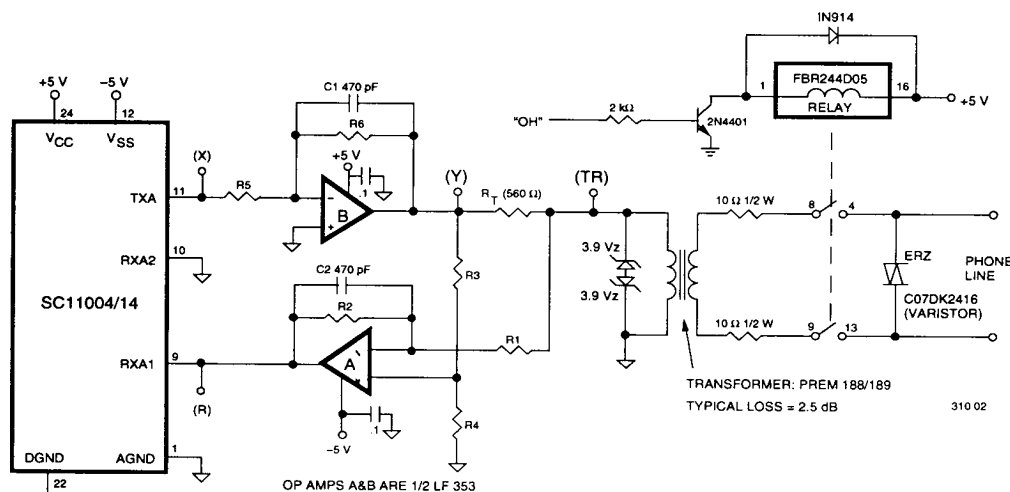

Figure 2. Using an External Hybrid with the SC11004/14
With a higher loss transformer, some degradation in performance at lower signal levels will occur. Specifically, the bit error rate, when operating at receive signal levels below -40 dBm in the presence of noise, will be higher. The energy detect on/off levels measured at the line will also be different from those specified at the chip. With a 3 dB loss transformer for example, the energy detect on/off levels measured at the line will be in the range of -40/-45 dB rather than -43/-48 dB as specified at the chip. An external hybrid circuit, shown in Figure 2, can be used to overcome these losses and achieve maximum performance.
The external hybrid circuit uses two operational amplifiers, one in the transmit path and the other in the receive path. The SC110104/14 internal transmit stage provides a gain of 6 dB over the transmit signal level desired at the line. For example, if the TLC1, TLC0 level control codes are set to 0 and 1 respectively so as to obtain -9 dBm at the line, the chip actually puts out -3 dBm at the TXOUT pin (pin 11). Under ideal conditions, with no loss in the transformer and perfect line matching, the signal level at the line will then be the desired -9 dBm. In practice however there is impedance mismatch and a loss in the coupling transformer. Therefore it may be desired to provide a gain in the transmit and receive paths to overcome the loss. The receive gain  $G_R$  and transmit gain  $G_T$  are set by the ratios of resistors R2, R1 and R6, R5 respectively (Figure 2).
It should be noted that the transmit amplifier is only needed to overcome the loss in line coupling. It can be eliminated since the transmit signal level specification is typically stated as a maximum. Amplifier B, resistors R5 and R6 and capacitor C1 can be eliminated and point X connected to point Y in the circuit of Figure 2 to achieve a more cost effective external hybrid arrangement.
- Instructions to the modem IC (See Note 1 and 2). Data on the DI/O pin shifted into the modem when  $\overline{WR}$  is low, on rising edges of the SCK clock. Data is transferred into a latch when  $\overline{WR}$  goes high. (See Figure 2 for write cycle waveforms). Up to 7 data bits (D0–D6) can be sent to the device. These bits control the operating modes of the modem as shown below: